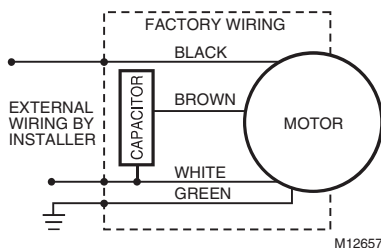

Fig. 3. Typical CA111 (series 1 & 2) 120V, 60 Hz or 208/230V, 50/60 Hz wiring diagram.
5. Refer to Fig. 3 and 4 for typical electrical diagrams.